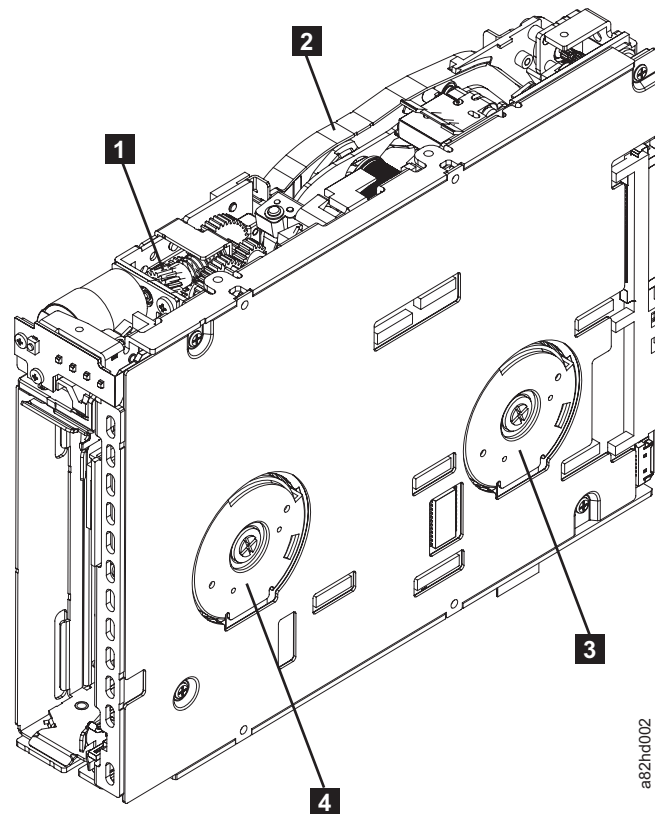

Figure C-3. Rewinding tape into cartridge
**Attention:** DO NOT TOUCH THE OUTER GUIDE RAIL ( **2** in Figure C-3). THIS RAIL IS VERY DELICATE AND EASILY DAMAGED.
5. Turn the supply reel ( **4** in Figure C-3) clockwise, allowing the moistened tape to adhere to the hub as it winds around the supply reel (inside the cartridge).
6. Continue spooling into the cartridge until the tape is taut and remains within the flanges of the tape guiding rollers. Turn the supply reel (**4** in Figure C-3 on page C-4) 10 additional turns. Ensure that you do not stretch the tape.